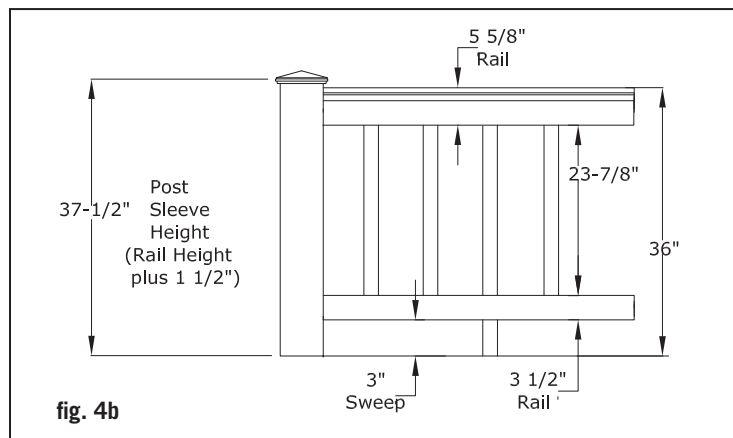

fig. 4b
Step 11(b): Fig. 4b illustrates how a 36" high railing might be sized. Starting with a 3" sweep + 3-1/2" bottom rail + 23-7/8" baluster + 3-1/2" upper rail + 2-1/8" cap rail = a 36" rail height. If you want to have your railing at a different height, use fig. 4b as a planning tool to determine the height to cut the post sleeves and support blocks. *Note: Use a fixture to ensure a consistent length (+/- 1/16").*
Step 9(b): Fig. 4b illustrates how a 36" high railing might be sized. Starting with a 3" sweep + 3-1/2" bottom rail + 27-5/8" baluster + 3-1/2" upper rail + 2-1/8" cap rail = a 36" rail height. If you want to have your railing at a different height, use fig. 4b as a planning tool to determine the height to cut the post sleeves and support blocks. *Note: Use a fixture to ensure a consistent length (+/- 1/16").*